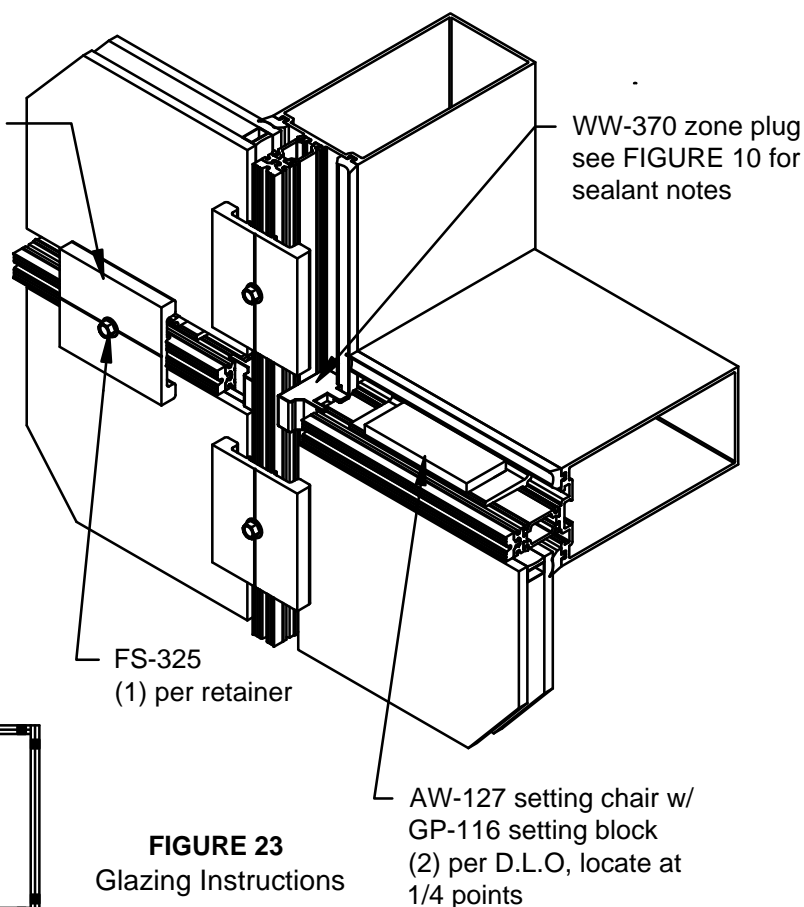

FIGURE 23
- Full length pressure plates must be installed if severe weather or high wind loads are anticipated. SEE FIGURE 23 & 24.